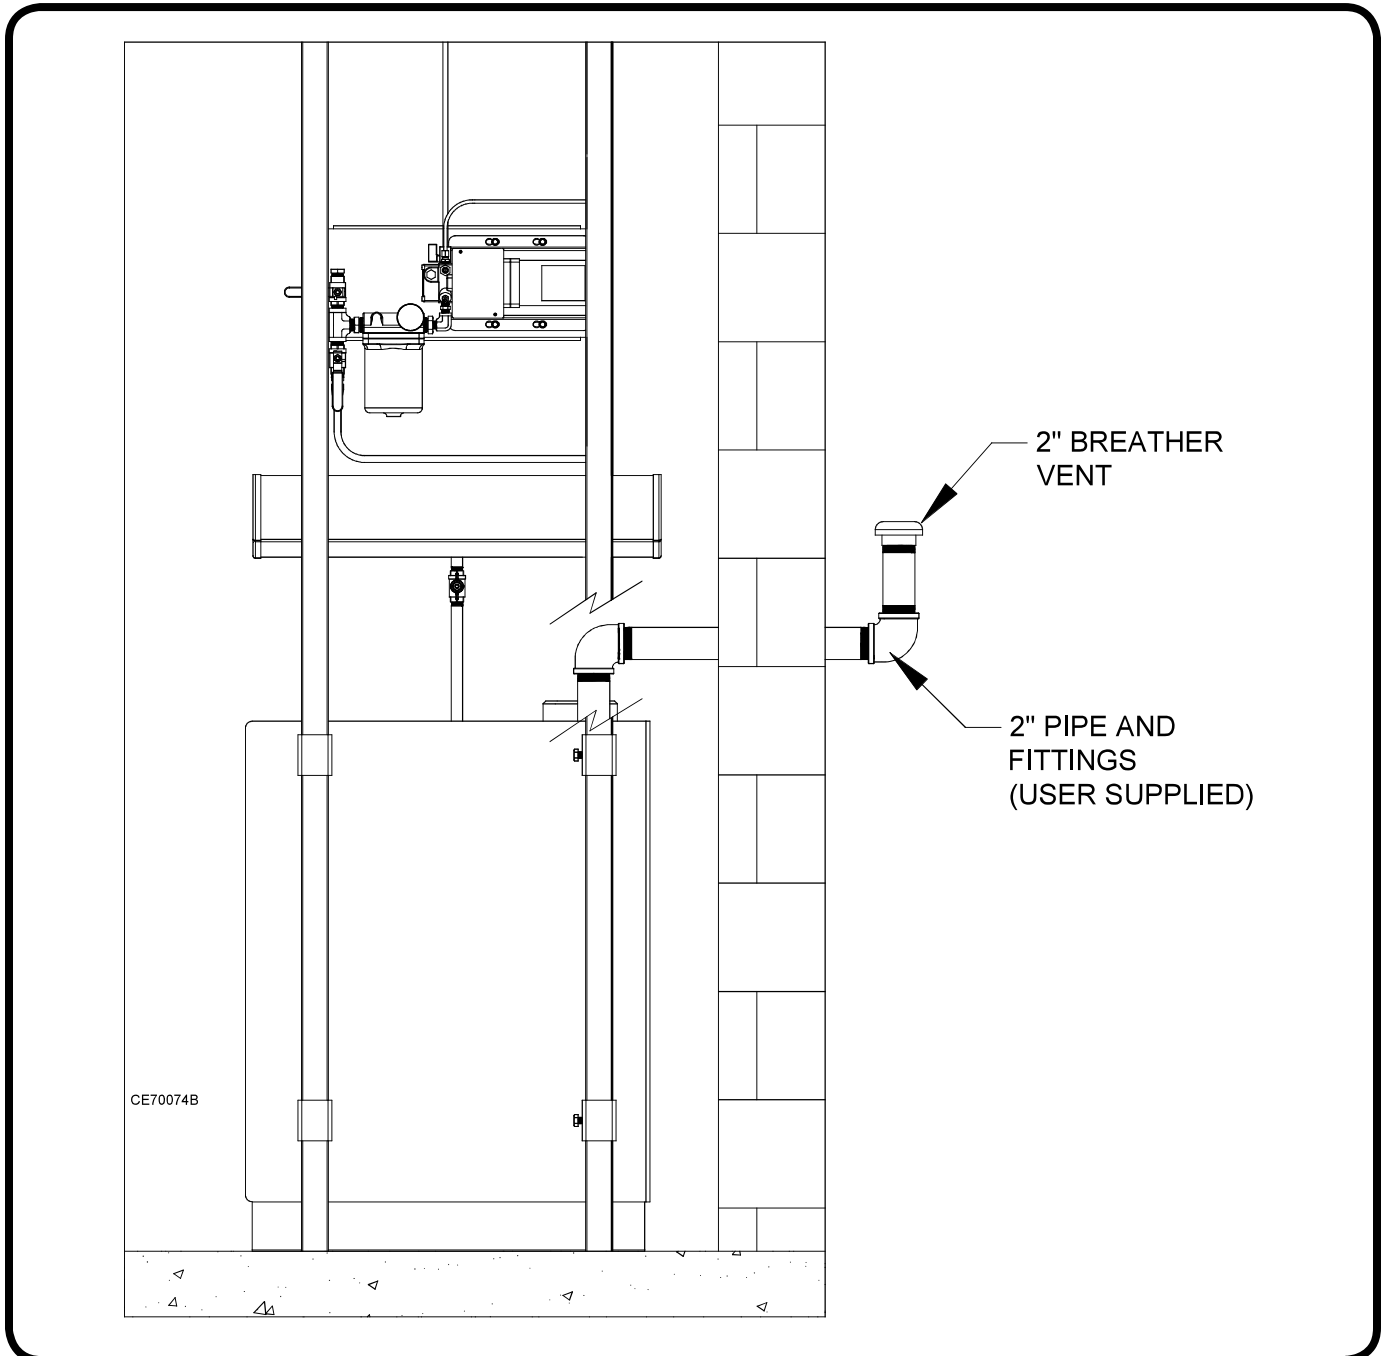

Figure 4: Installing the 2" Breather Vent
- (1) Refer to Figure 4
- (2) Use proper 2" pipe and fittings (user supplied) to install the breather vent according to all state and local codes